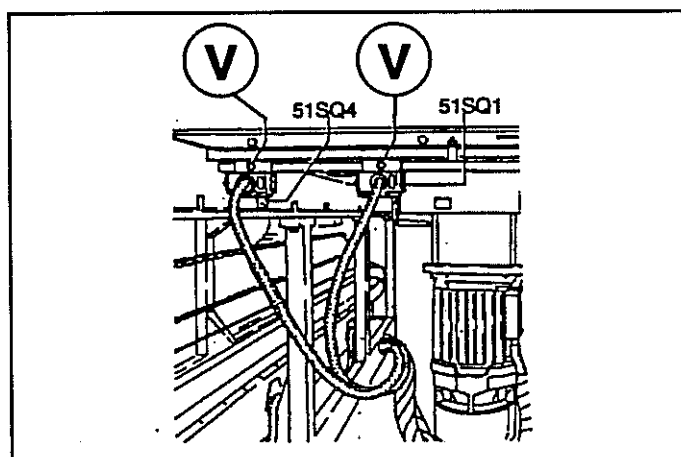

Fig.3.3
- 1- Move limit switch 51SQ4 forward by approx 2 mm fig.3.3